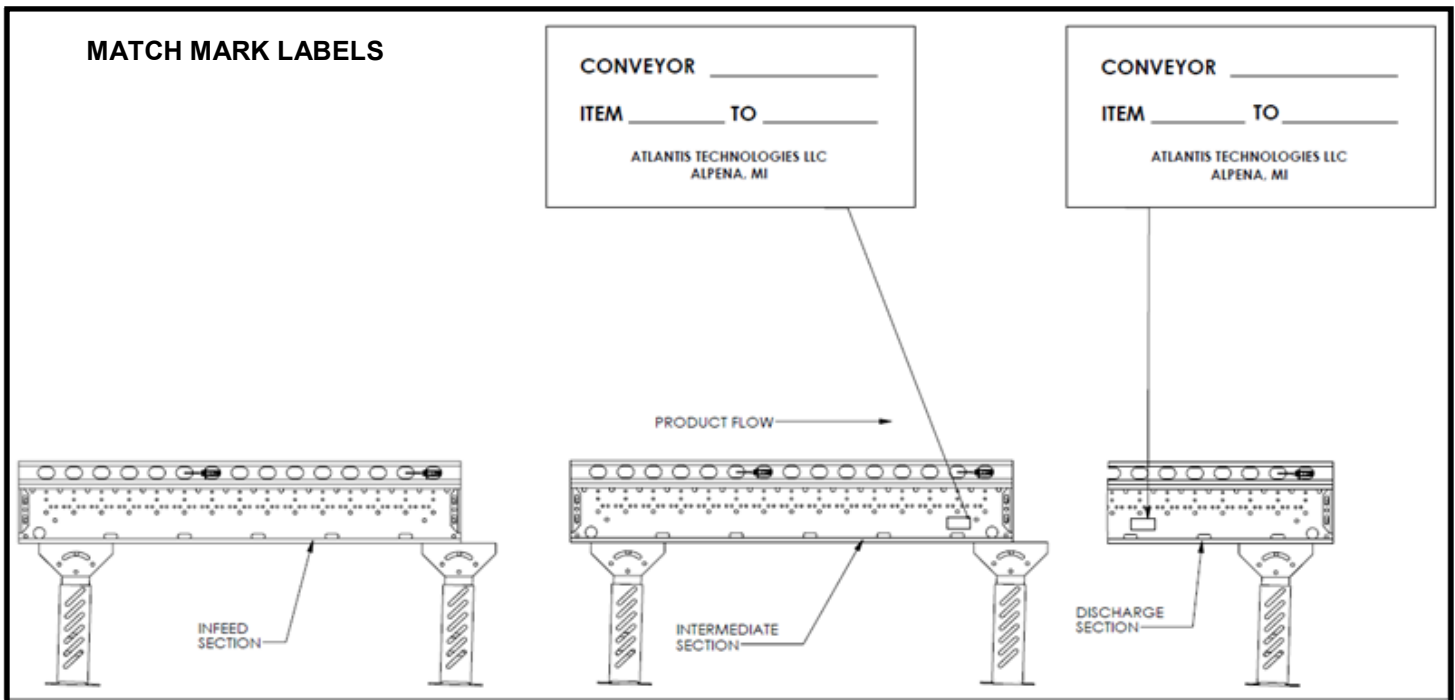

FIGURE 8.1
- 2) Position infeed section and remaining sections using match-mark labels as a guide (See Figure 8.1).